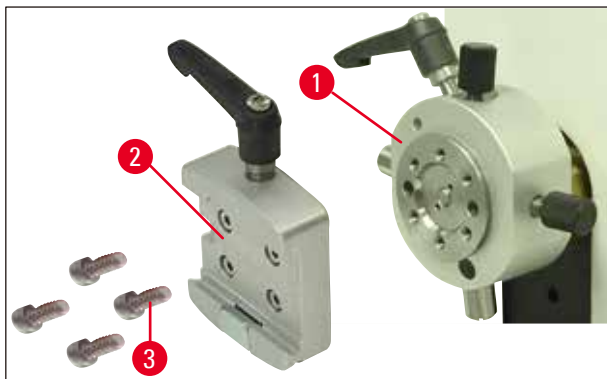

Fig. 9
2. Then remove the dovetail receptacle (→ Fig. 9-2) from the specimen holder fixture (→ Fig. 9). To do so, loosen and unscrew the four screws (→ Fig. 9-3) using a Hexagon key with handle, No. 3 (→ Fig. 10-1).